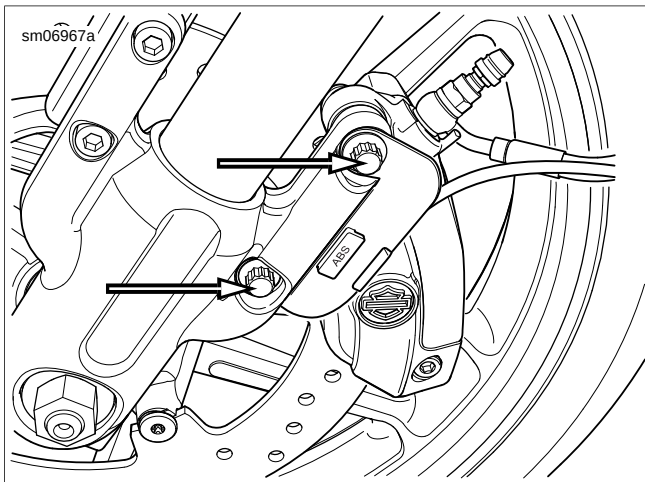

Figure 2-52. Caliper Mounting Bolts (typical, ABS model shown)
4. See Figure 2-52. Remove both upper and lower mounting bolts to remove brake caliper assembly.